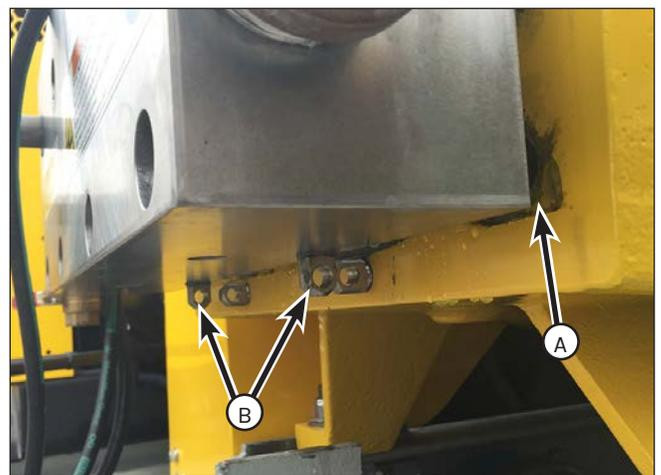

Figure 71: Manifold in Adjustment Position.
- a. Slide the manifold away from the powerframe (or adapter plate) a few inches (Figure 71, A). This will allow room to adjust the threaded trunnions in the bottom of the manifold.
- b. Screw both manifold trunnions (Figure 71, B) in completely and then back them out approximately 2-1/2 turns. Slide the manifold back against the powerframe (or adapter plate).